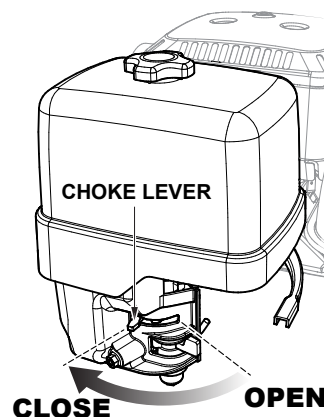

Figure 15. Choke Lever (Closed)
4. Place the choke lever (Figure 15) in the “**CLOSED**” position if starting a cold engine.